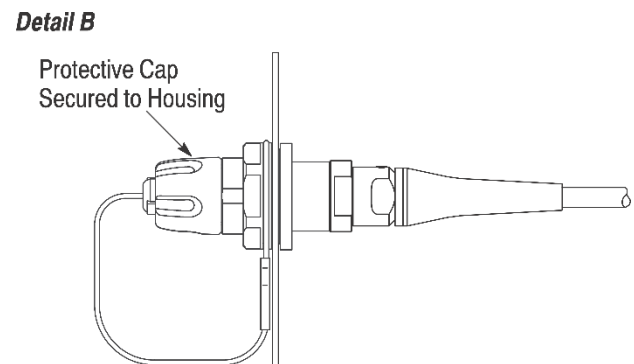

Figure 17
2. Install the connector through the back of the panel so that the O-ring on the shoulder of the D-hole housing is flat against the panel. See Figure 17, Detail A.
3. Thread the panel nut of the protective cap onto the D-hole housing. See Figure 17, Detail A. Tighten the panel nut to a torque of approximately 40 N·m. When the panel nut is secure, the O-ring should be compressed.
4. Thread the protective cap onto the housing, then hand-tighten the protective cap as shown in Figure 17, Detail B.